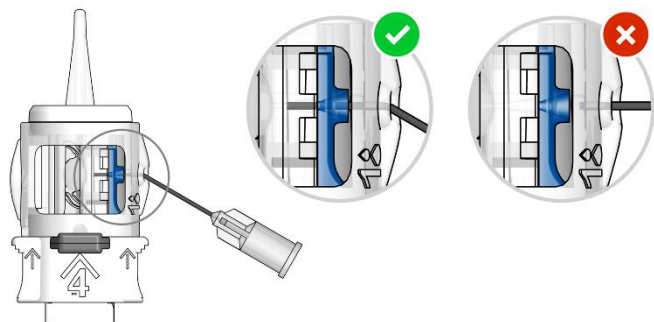

Fig. 1
3. Fully introduce the cannula (23-27G) of a syringe filled with viscoelastic material into the small aperture indicated with '1' (Fig. 1) until it is completely inserted into the blue funnel. Maintain a slight pressure on the cannula tip while injecting the viscoelastic solution through the aperture. The injected quantity of OVD is sufficient as soon as the OVD has reached the end of the IOL haptics (appr. 0.2-0.25 ml).